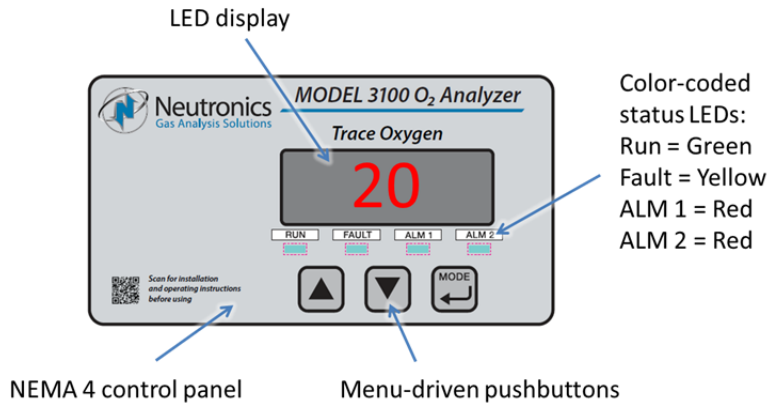

Fig. 3, Control panel
The control panel (see Figure 3) serves as the main user interface. It features the menu-driven pushbutton keypad (ramp-UP, ramp-DOWN, and MODE keys) and the status LED's. Designed to be splash and water-resistant, it includes four (4) #8-32 threaded mounting studs at each of the corners and a gasket for use in mounting the module to a stationary control or equipment panel. The faceplate rating is NEMA 4, IP66.